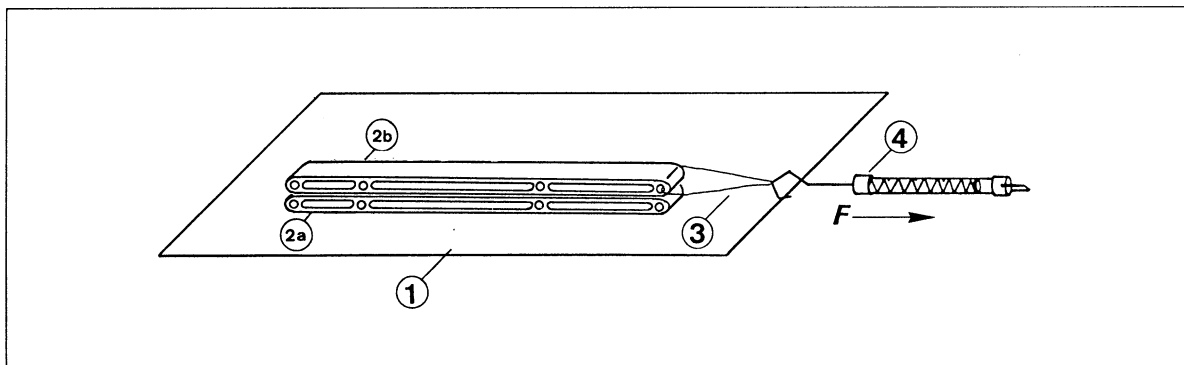

Fig. 1 Setup of experiment for investigating types of friction generated by solid bodies:
1. Lay out the apparatus for the experiment as shown in fig. 1.
Experiment part 1 ► Fig. 1